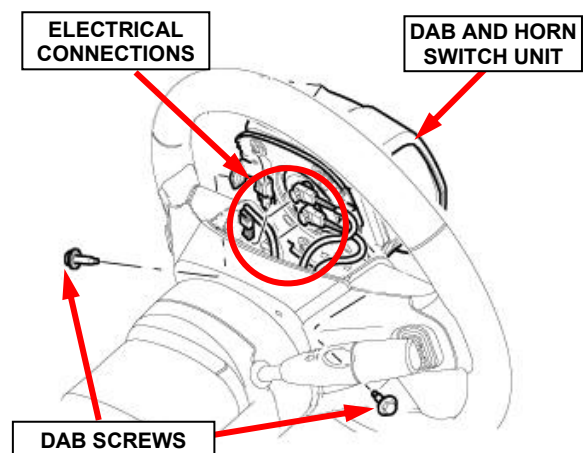

Figure 4 – Electrical Connections
3. Pull the DAB and floating horn switch unit away from the steering wheel far enough to access the electrical connections on the back side of the unit (Figure 4).
7. Position the **NEW** DAB and floating horn switch unit close enough to the steering wheel to reconnect the electrical connections to the back of the air bag housing (Figure 4).
8. Reconnect the steering wheel wire harness connector to the floating horn switch connector on the back of the DAB unit (Figures 4 and 5).